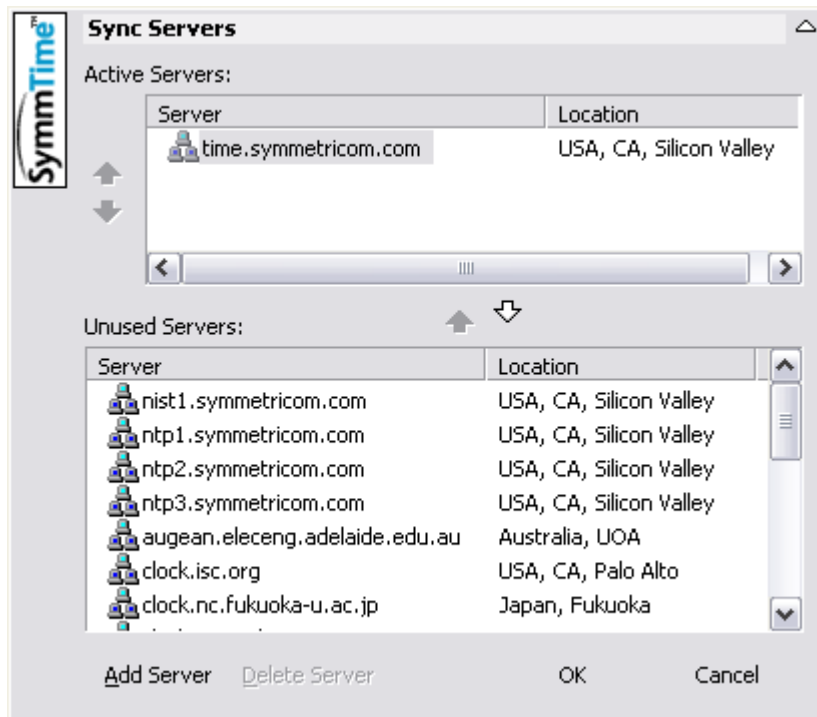

Figure 4-1. The Sync Server Window in SymmTime
2. Right-click anywhere in the SymmTime window and select **Sync Servers...** The Sync Servers window appears similar to the example shown in Figure 4-1.